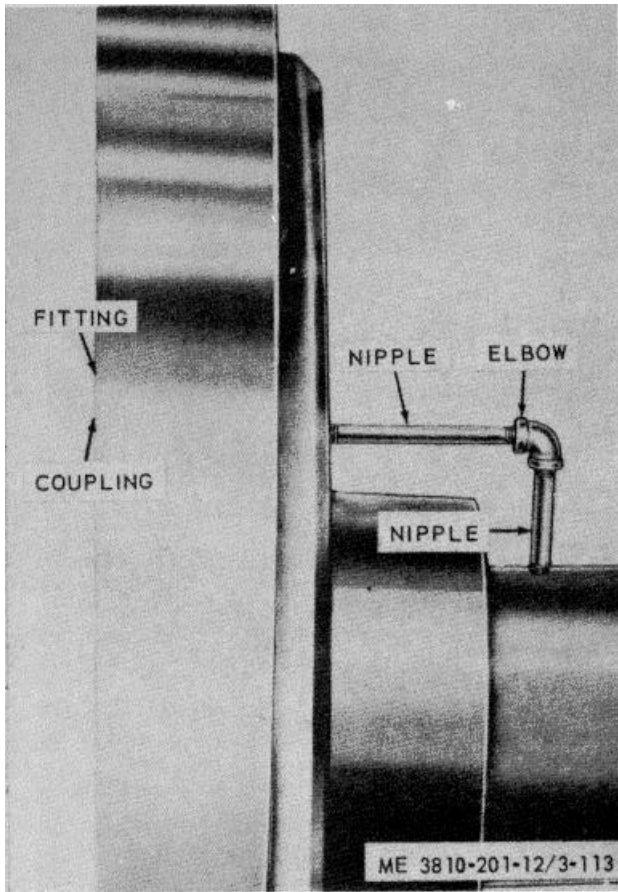
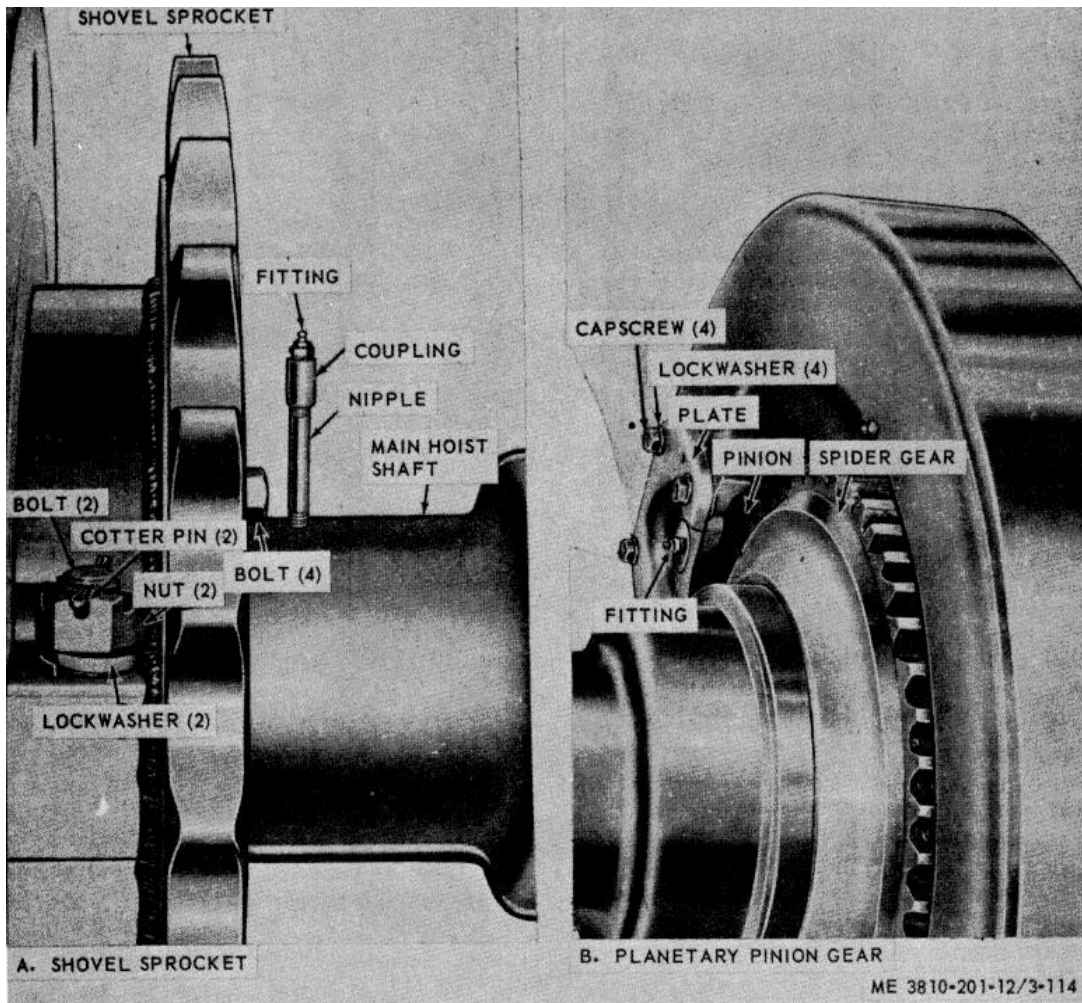

Figure 3-113. Lubricating fitting arrangement for lagging.
Figure 3-114. Shovel sprocket and planetary pinion gear, removal and installation.
c. *Lubrication.* Refer to figure 3-113, lubrication fitting arrangement.
(1) Remove revolving frame crowd and retract chain (para 4-3).
(2) Refer to view A of figure 3-114 and remove shovel sprocket.
(3) Refer to view B of figure 3-114 and remove planetary pinion gear.
Lubrication arrangement (view A, fig. 3-114) for sprocket installation must be modified to that shown in figure 3-113 when other front end attachments are installed.